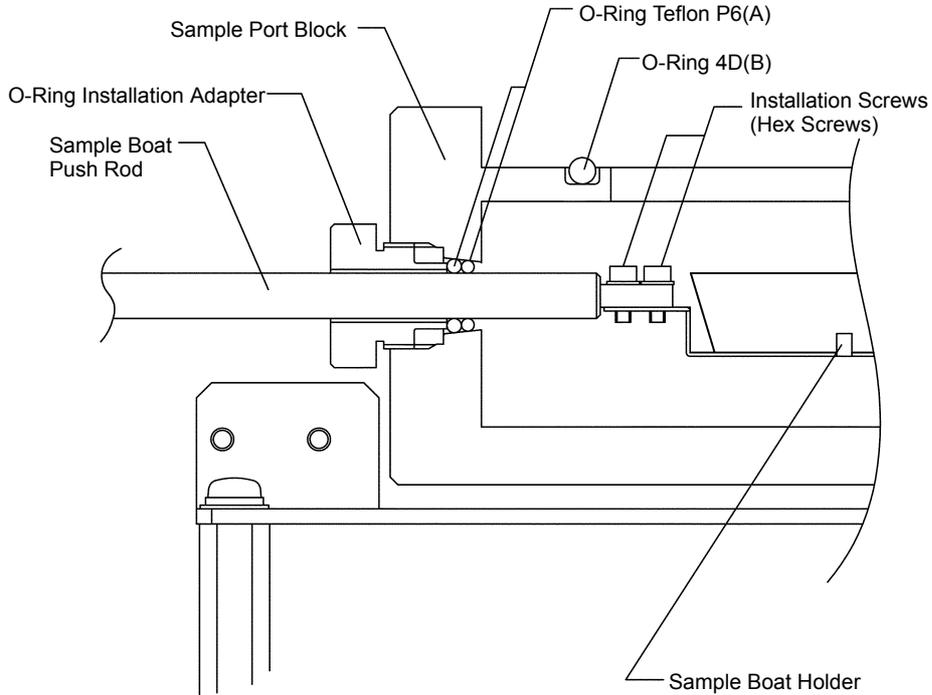

Figure 4.1 • Sealed Parts of the Sample Boat Push Rod
- (1) At the seal between the sample boat push rod and sample port block (A in “Figure 4.1 • Sealed Parts of the Sample Boat Push Rod”).
- (2) At the seal between the sample port cover and the sample boat access opening on the sample port (B in “Figure 4.1 • Sealed Parts of the Sample Boat Push Rod”).
- (3) At the connection between the flange on the sample port block and the flange on the TC combustion tube or IC reaction tube.
- (4) At the drain tubing in the drain vessel on the right side of the SSM-5000A.